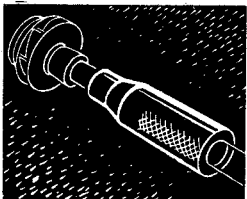

FIG. 4
4. Spread the split-tapered impeller lock with a screw driver or wedge inserted in the shaft and into the bore of the impeller. Remove the screw driver and clean off any burrs left by the screw driver with a file. Pound the bushing into place with the beater (Figure 4 special tools).